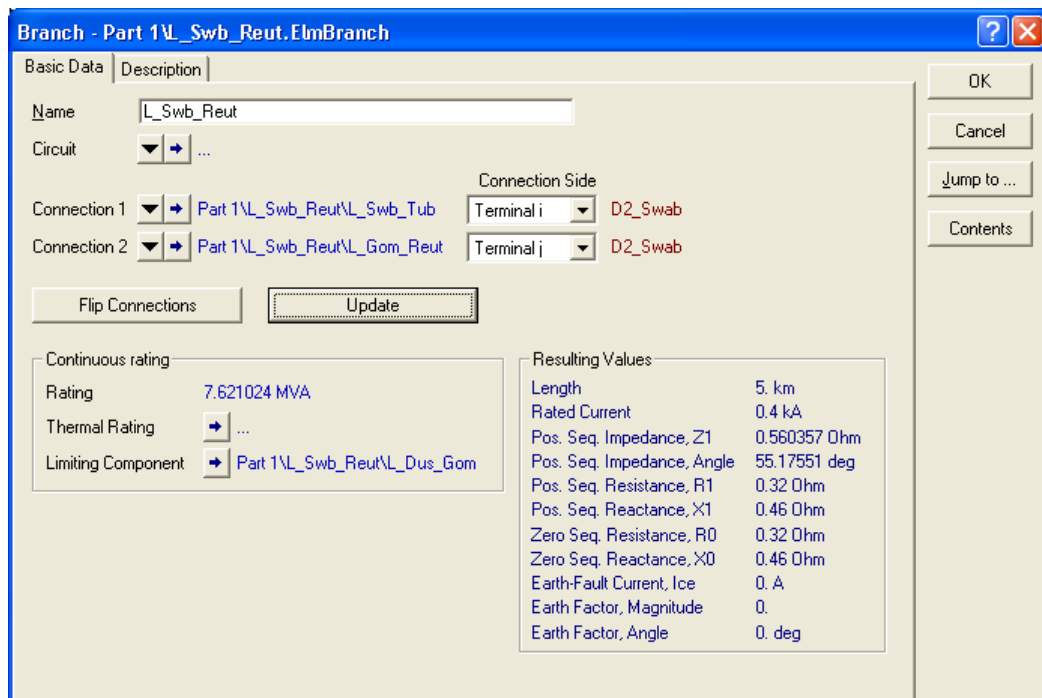

Fig. E.6: Updated Branch object
- ▶ Press the 'Update' button in order to select the connections and the limiting component of the Branch automatically (figure E.6). This will update the Resulting Values of the Branch (length, rated current, impedances etc.), too.